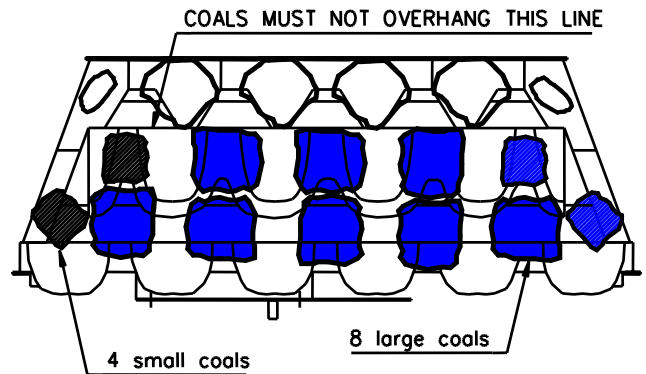

Fig.7 Placing the loose coals
7. Remove the coals from the bags and place them on the ceramic blocks in accordance with Fig. 7.